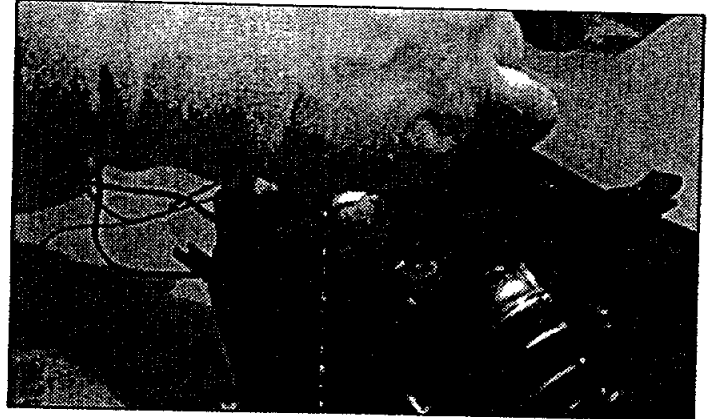

Figure 12
**NOTE: WEAR EYE PROTECTION DURING THIS STEP. ( Fig.12)** Once the correct size hole has been made, carefully remove the burrs on the inside and outside of the hole ( this can be carefully done with a small knife). Compressed air works well to blow chips from drilling out of the headlight area. **AGAIN, WEARING EYE PROTECTION.**